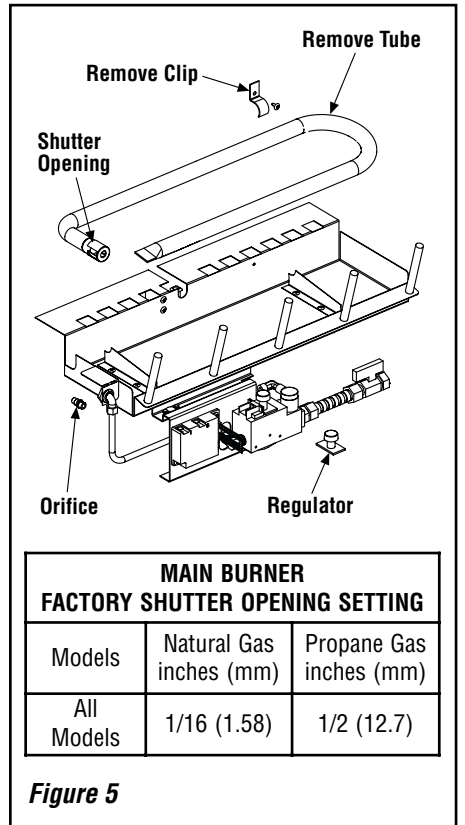

Figure 5
Step 5. (Refer to **Figure 5**)
B. Retrieve the burner and slide the venturi tube over the orifice. Set the shutter adjusting opening as shown in **Figure 5**.